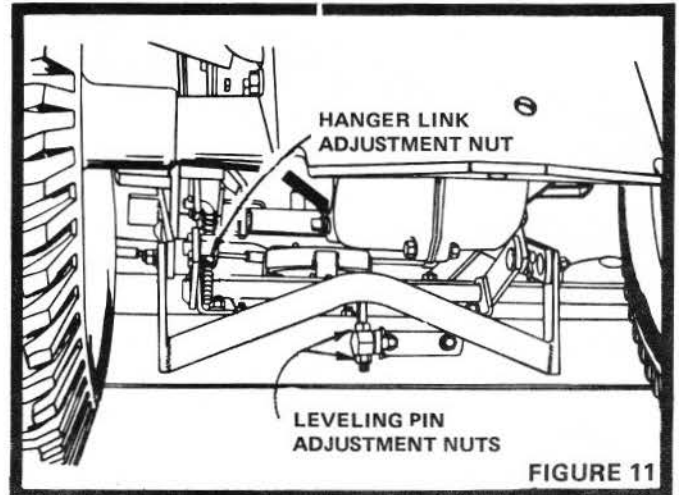

FIGURE 11
4. If an adjustment is required, adjust Nut on Hanger Link at L.H. side (Fig. 11) to level mower. Shorten Link to raise L.H. side of mower. Lengthen Link to lower L.H. side of mower.
2. Adjusting Leveling Pin Nuts (Fig. 11) up or down to obtain the above pitch or difference from front to rear. Adjusting the Nuts up will raise the rear of the mower. Lowering Nuts will lower rear of mower. Tighten the two Nuts securely against Leveling Pin.